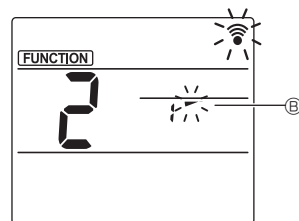

Fig. 3
- ③ Setting the vane angle (Fig. 3)